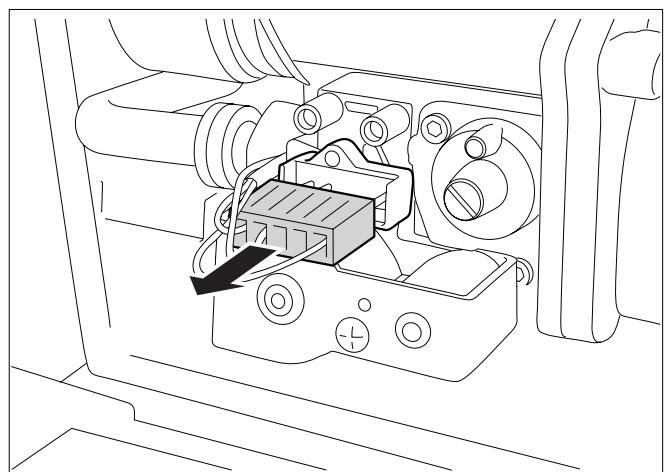

Fig. 73 Removing the gas control valve plug
- Remove the plug of the gas control valve (see fig. 73).
- Reconnect the plug to the gas control valve (see fig. 73).